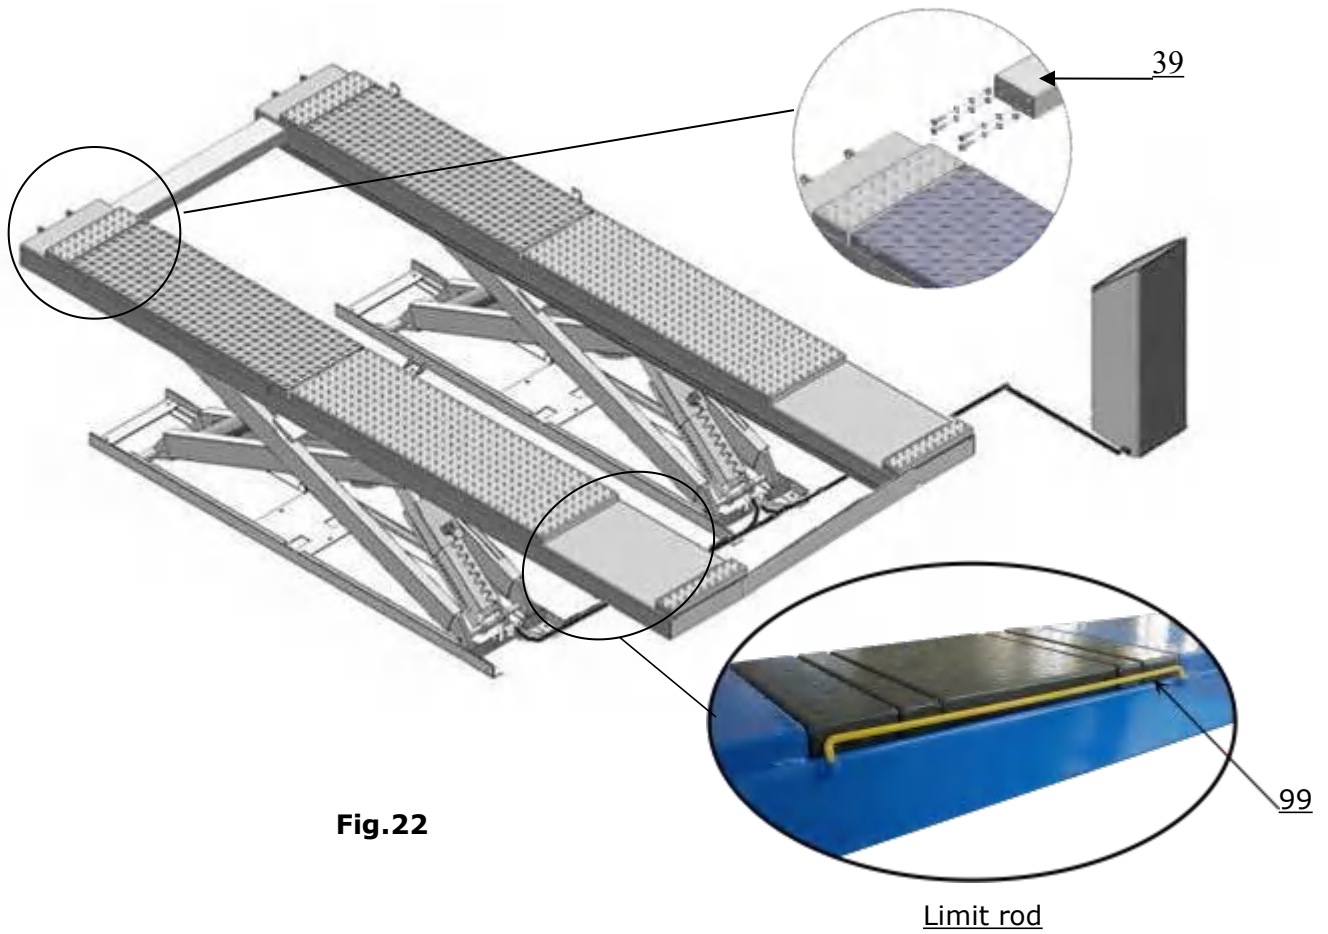

Fig.22
F. Install platform connecting bar, limit rod. See Fig 22.